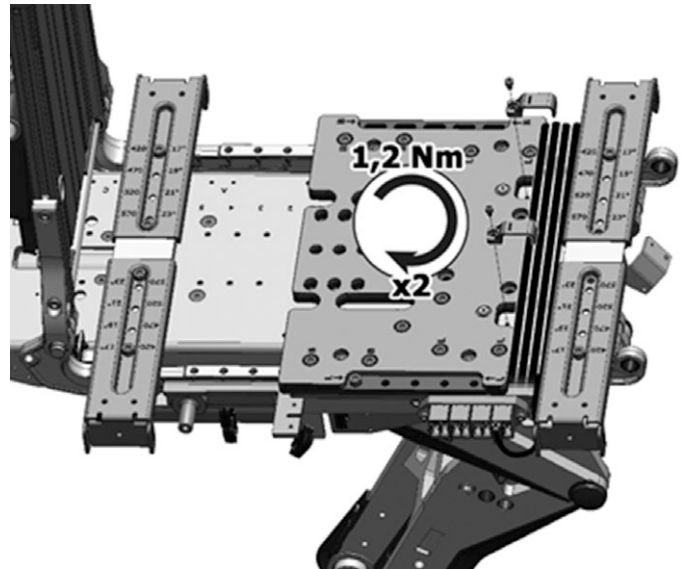

Figure 141. The bus cables are laid across the seat frame and mounted in the two cable brackets.
4. The cables are laid across the seat frame and mounted in the two cable brackets. See fig. 141. Avoid crossing the cables with each other between the connector block and the first cable bracket on top of the seat. Use a Torque wrench to tighten the screws. **Tightening torque 1.2 Nm / 0.9 Ft/lbs.**